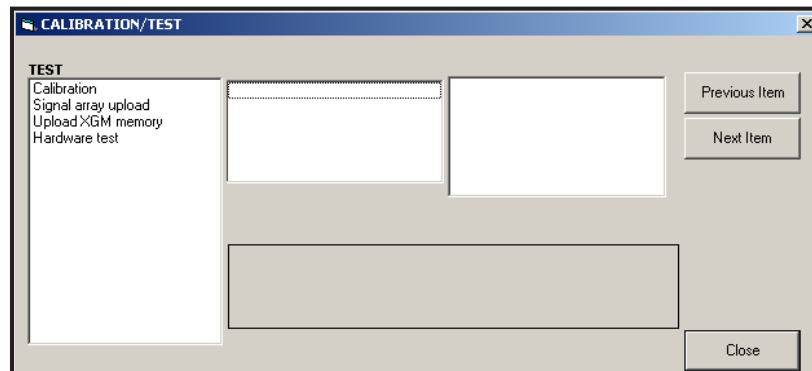

Figure 10: The Calibration/Test Menu
5. To enter data into the user program, double-click on the *Calibration/Test* menu. The window appears similar to Figure 10.
1. From the *Calibration/Test* menu (see Figure 10 on page 42), double-click on the *Calibration* entry to open the option.
To calibrate any option card installed in Slot 1 of the XGM868i, enter the *Calibration/Test* menu as shown in Figure 10 on page 42.